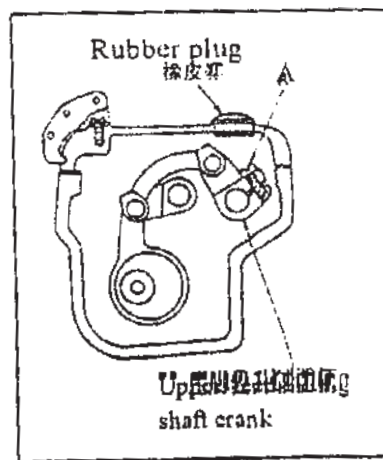

Fig. 11
2) To change the balance of the alternating movements between the walking foot and presser foot (Fig.11):